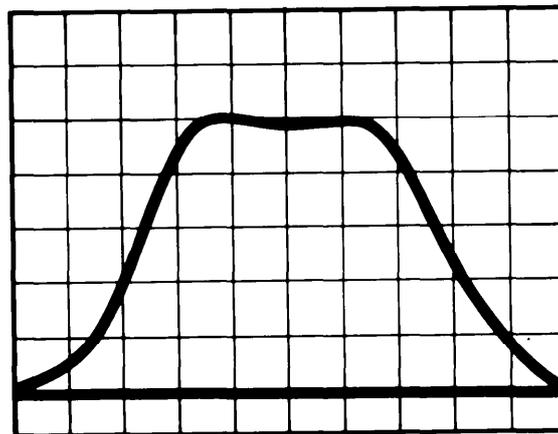

Figure 4-8. Typical Response, 21.4MHz Vertical Amplifier
- (4) Set the oscilloscope for viewing a sweep response.
- (5) Adjust coils L1, L3, and L4 on Input Amplifier (A2A1A1) obtaining a detector response like that shown in Figure 4-8. Then disconnect the high impedance detector.
- (6) Perform steps 1 through 8 of paragraph 4.7.1.4 to determine if the response is sufficiently flat to meet specifications. If not, continue with that procedure to touch up the response. Otherwise, this sweep alignment procedure incomplete.